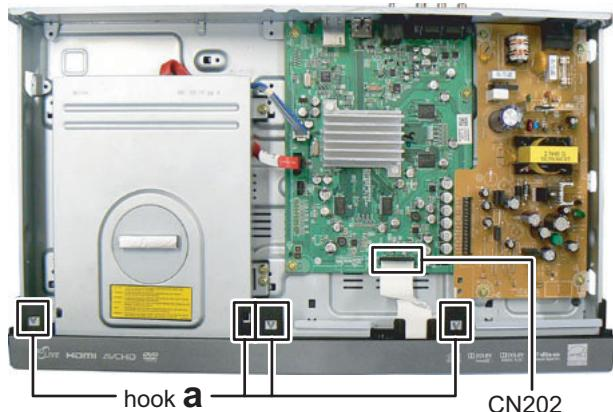

Fig.2
#### 3.1.2 Removing the Front panel (See Fig.2 to 4)
- (1) Disconnect the card wire from Front panel connected to connector CN202 of the Main board. (See Fig.2)
- (2) Disengage four hooks **a** engaged top side of the Front panel. (See Fig.2)